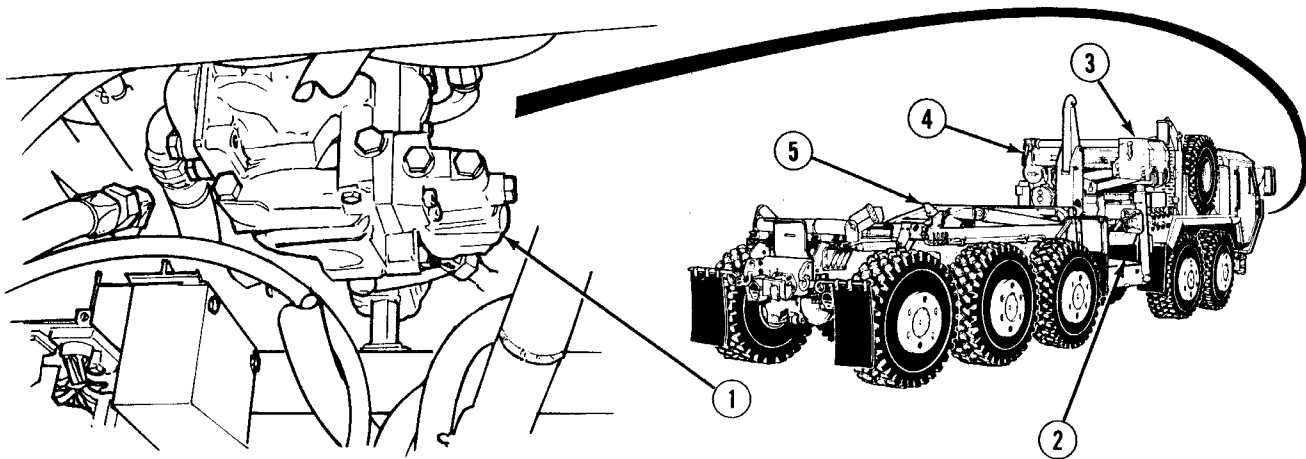

Figure 1-17. Hydraulic System
The hydraulic system (Figure 1-17) pumps (1) mounted in front of the engine provide the fluid power to operate the power steering, Self-Recovery Winch (SRW) (2), cooling fan (3), Material Handling Crane (MHC) (4) and Load Handling System (LHS) (5). A manually operated selector switch in the cab is used to select the auxiliary hydraulics.